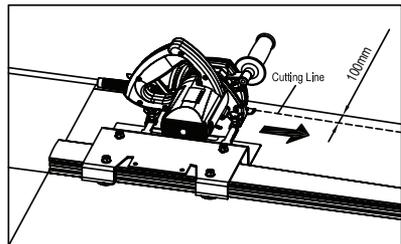

Figure 4
- When cutting material that is less than 100mm in width, the ESC-125 should be attached with the blade furthest away from the Carriage Assembly (See Figure 4)